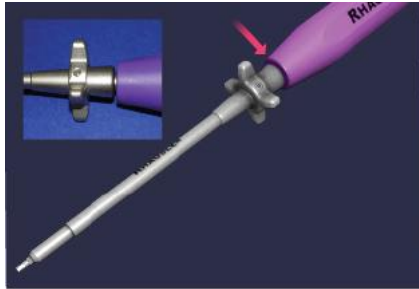

fig. 32
- Prior to loading the Screw Driver, be sure, that the outer locking mechanism is pulled up flush to the handle (fig. 32).